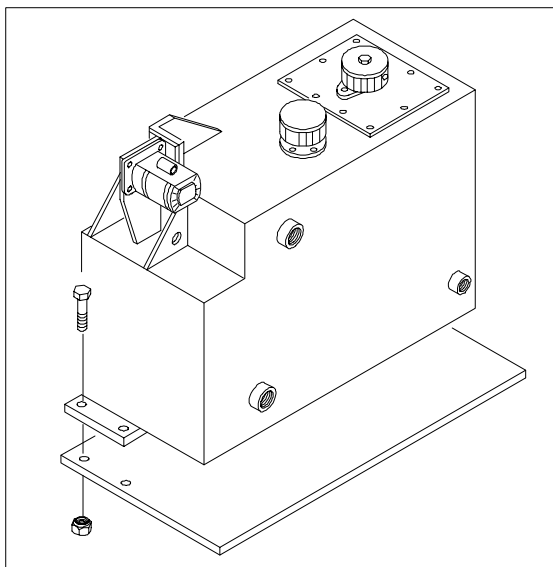

Fig.3.
2. Fasten the hydraulic unit on the bottom plate with the four M12x40 hex screws and M12 lock nuts, delivered with the adaptor kit, fig. 3.